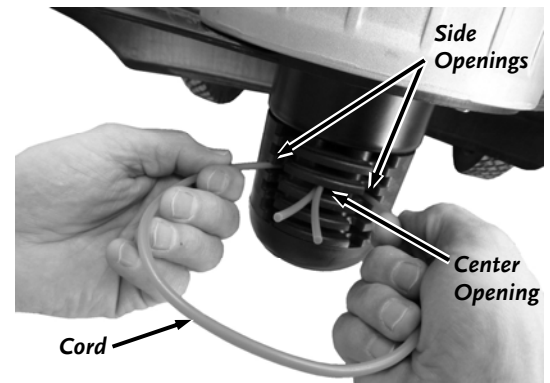

Figure 5
1. Insert the ends of the Cords into the side openings in the Line Plate (**Figure 5**).